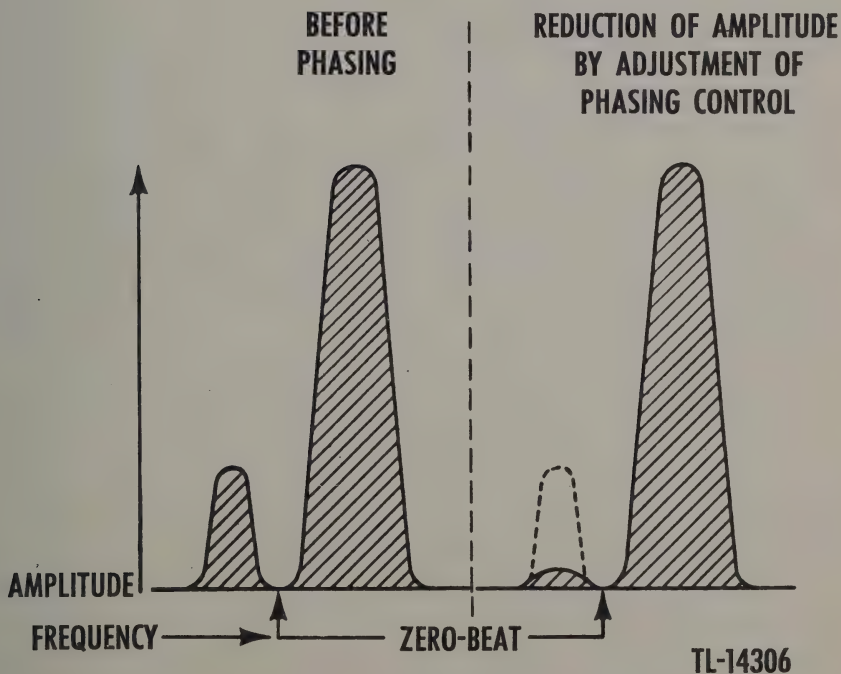

Figure 6. Effect of correct adjustment of crystal phasing control.
(13) The CRYSTAL PHASING control is used when the SELECTIVITY control is in any one of the three crystal positions. The control minimizes interference caused by high-frequency noises, and in conjunction with the crystal filter reduces signal interference. As the receiver is tuned across a signal, the amplitude will appear greater on one side of zero-beat. Tune to the weaker side and adjust the CRYSTAL PHASING control until the signal is reduced in amplitude as much as possible (fig. 6). This will be the correct setting of the phasing control for any other signal, providing the selectivity control is not changed.